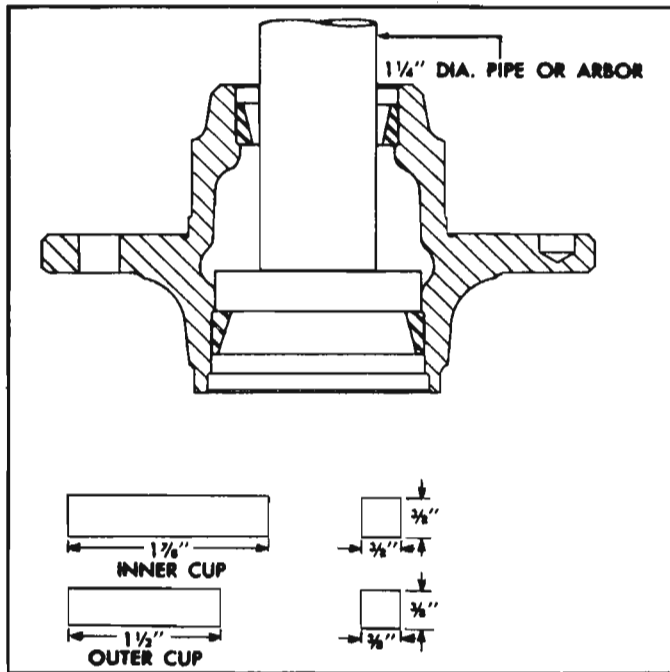

Fig. 3-6—Bearing Cup Removing Tools
1. Using steel bar stock $\frac{3}{8}$ " x $\frac{3}{8}$ " up to $\frac{3}{8}$ " x 1" in cross section, make press-out tools shown in Figure 3-6.